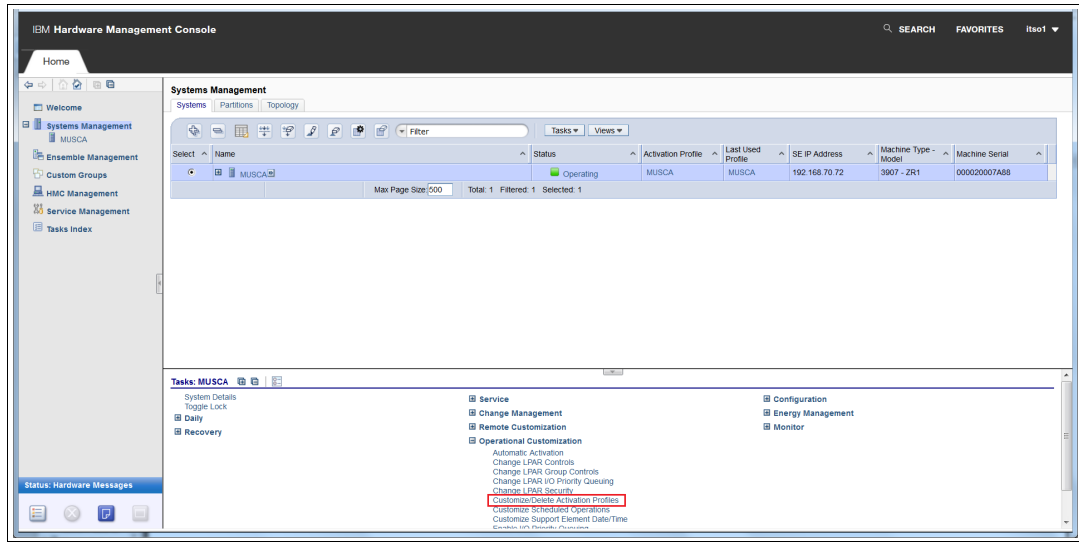

Figure 5-45 Systems Management: Main display
- In the Tasks window, click **Operational Customization** to expand it, and select **Customize/Delete Activation Profiles** (see Figure 5-45).